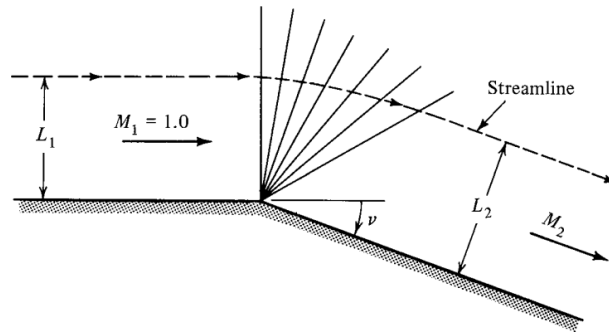

Figure P8.16
8.16 Flow, initially at a Mach number of unity, expands around a corner through angle ν and reaches Mach number M_2 (see Figure P8.16). Lengths L_1 and L_2 are measured perpendicular to the wall and measure the distance out to the same streamline as shown.